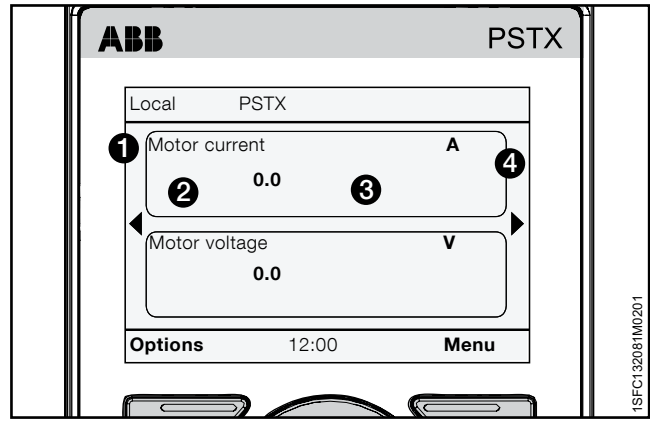

Figure 6.20
Select the display style for the home view. The selected display style is shown by ② in Figure 6.20.
Push "Save" to save the value. Decimal numbers are shown in ③ in Figure 6.20.
Push  "Save" to save the display name. Display name is shown by ① in Figure 6.20.
Push  "Save" to save the value. Value is shown by ③ in Figure 6.20.
Display signal min as - Push  "Edit" to select the scaled minimum value in the Home view. Use the Navigation keys to change the value, Push  "Save" to save the value. See ③ in Figure 6.20.
Display signal max as - Push  "Edit" to select the scaled maximum value to show in the Home view. Use the Navigation keys to change the value, Push  "Save" to save the value. See ③ in Figure 6.20.
to save the Home view unit name. See ④ in Figure 6.20.